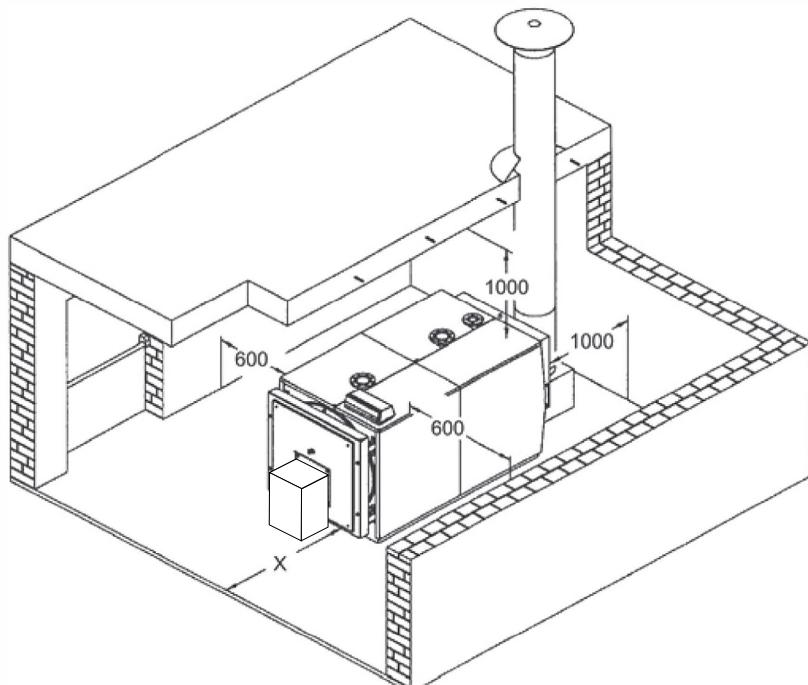

fig. 6
5.3 Installation location (Fig. 6)